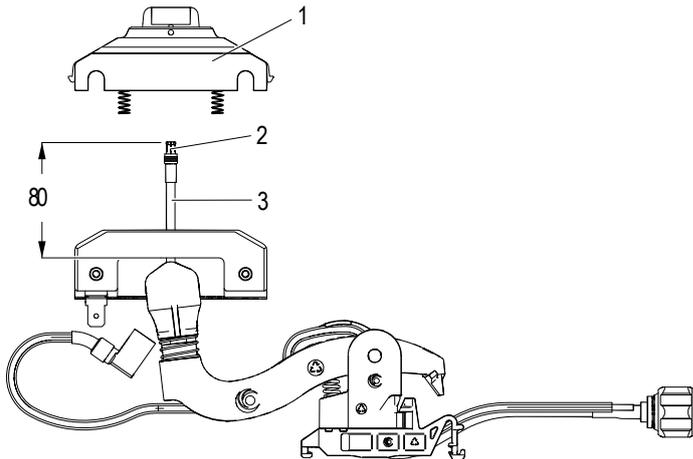

Fig. 151: Pull collector housing (1) from data cable (HF cable) (3)
- Disconnect the collector head (1) from the connector (2) of the data cable (HF cable) (3). The data cable (HF cable) must protrude approx. 80 mm from the joint (see Fig. 151).